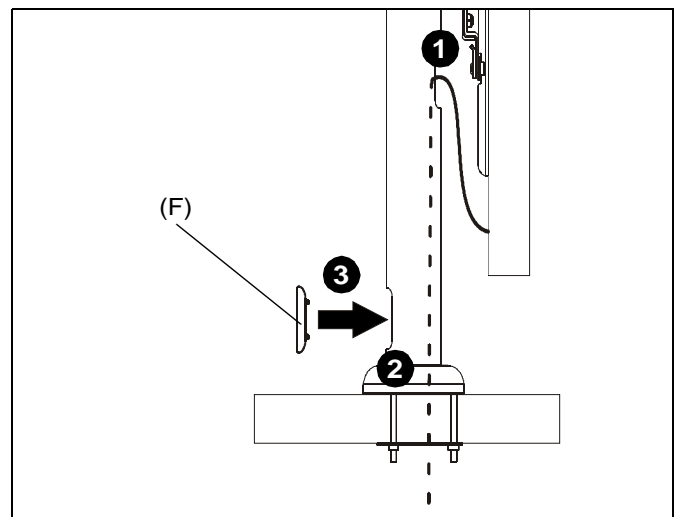

Figure 10
1. Route cables from display into upper hole on pole portion of table stand (B). (See Figure 10)
2. Route cables down the pole and through hole drilled in desk during desk installation. (See Figure 10)
3. Install cable port cover (F) into lower hole on pole portion of table stand (B). (See Figure 10)